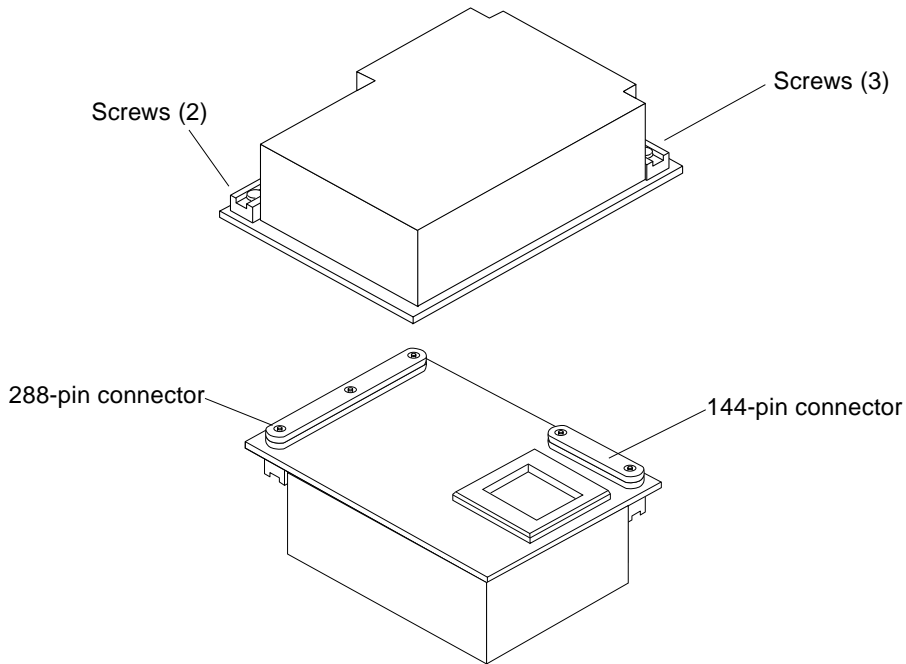

FIGURE 3-5 UltraSPARC II Module Connector Detail
Each CPU/Memory+ board has four connectors for UltraSPARC II modules (up to two modules per board, two connectors per module). For each module, there is a connector with 144 pins and a connector with 288 pins (FIGURE 3-5).
2. Use a 3/32 hex driver to loosen all screws from each of the compression bars. Two screws for the 144-pin connector, three screws for the 288-pin connector (FIGURE 3-5).